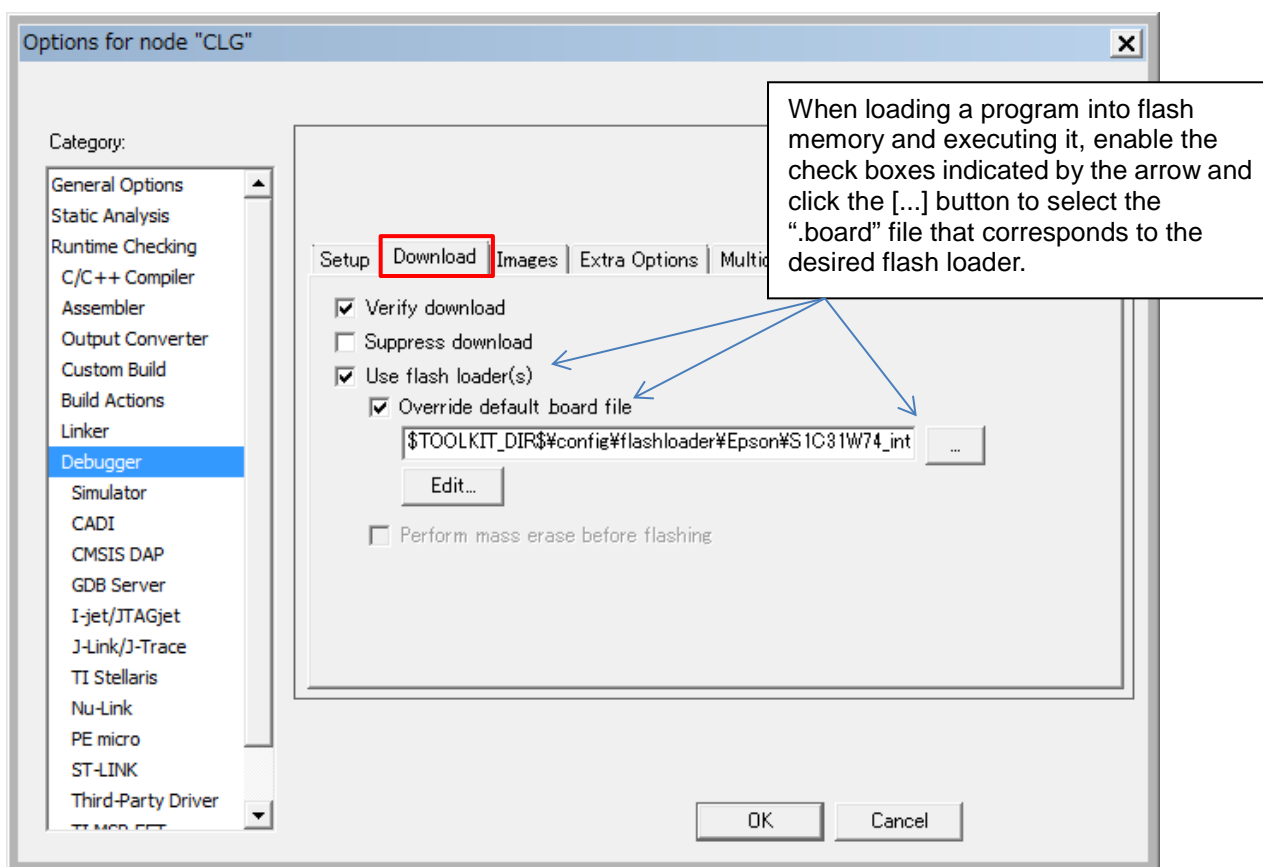

Figure 4.2.1.3 Setting the Flash Loader
6. Click the [...] button and select a "S1C31xxx_int.board" (Figure 4.2.1.3).